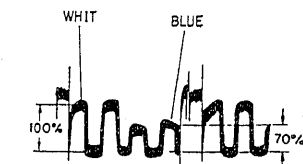

Fig. 4-7
(7) Matrix Adjustment (Figs. 4-7, 4-51)